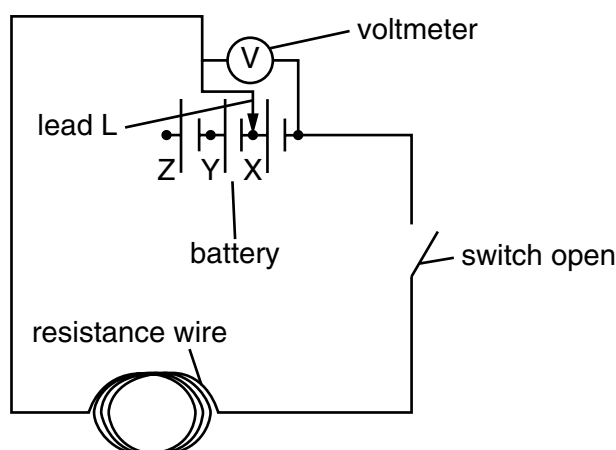

Fig. 2.1
Three 1.5 V dry cells. A power supply cannot be used as candidates will be required to calculate the resistance within the cells. The cells must be connected in series so that connections can be made across each cell, as shown in Fig. 2.1. The +1.5 V terminal must be labelled with the letter X, the +3.0 V terminal with the letter Y and the +4.5 V terminal with the letter Z. See notes 3 and 4.
1. The apparatus is to be set up for the candidate as in Fig. 2.1 with the switch open.